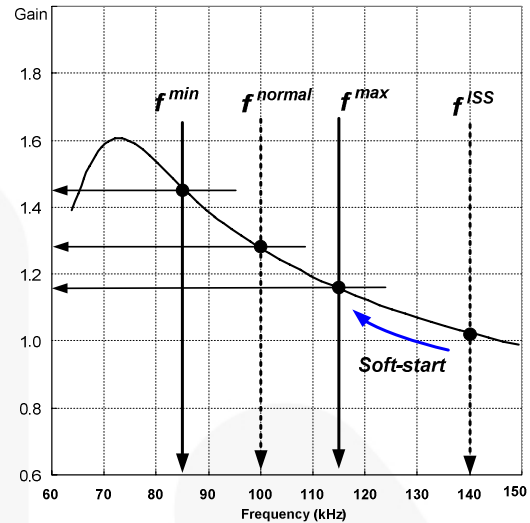
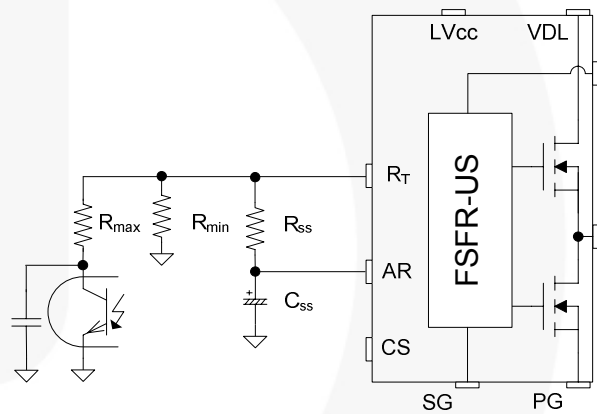
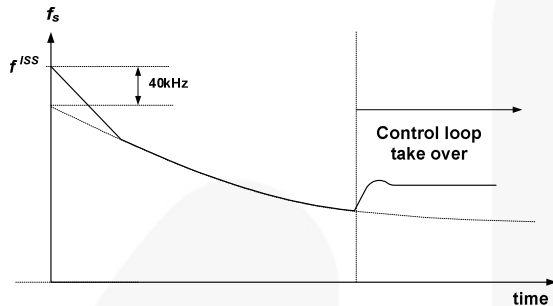

Figure 17. Resonant Converter Typical Gain Curve
Figure 18. Frequency Control Circuit
Figure 19. Frequency Sweeping of Soft-Start
3. Frequency Setting : Figure 17 shows the typical voltage gain curve of a resonant converter, where the gain is inversely proportional to the switching frequency in the ZVS region. The output voltage can be regulated by modulating the switching frequency. Figure 18 shows the typical circuit configuration for the R_T pin, where the opto-coupler transistor is connected to the R_T pin to modulate the switching frequency.
To prevent excessive inrush current and overshoot of output voltage during startup, increase the voltage gain of the resonant converter progressively. Since the voltage gain of the resonant converter is inversely proportional to the switching frequency, the soft-start is implemented by sweeping down the switching frequency from an initial high frequency (f^{ISS}) until the output voltage is established. The soft-start circuit is made by connecting R-C series network on the R_T pin, as shown in Figure 18. FSFR-US series also has an internal soft-start for 3ms to reduce the current overshoot during the initial cycles, which adds 40kHz to the initial frequency of the external soft-start circuit, as shown in Figure 19. The initial frequency of the soft-start is given as: